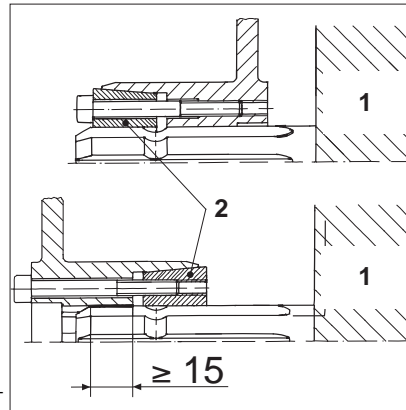

Fig. 7-6
The mating surfaces of the flange hub and the p.t.o shaft must overlap by a distance of at least *15 mm* (see fig. 7-6). The entire length of the taper-lock sleeve (2) must be on the mating surface of the p.t.o shaft.